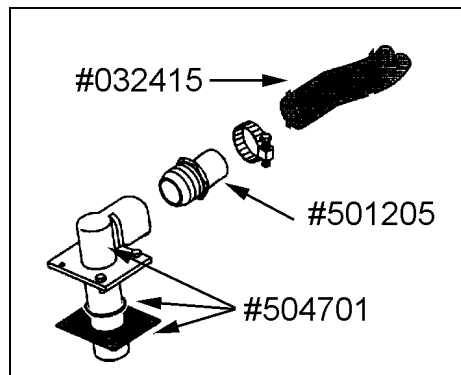

FIGURE 7 : BREATHER
16. Install the new breather on the connection panel (figure 7).
20. Install the new breather on the connection panel (figure 7).